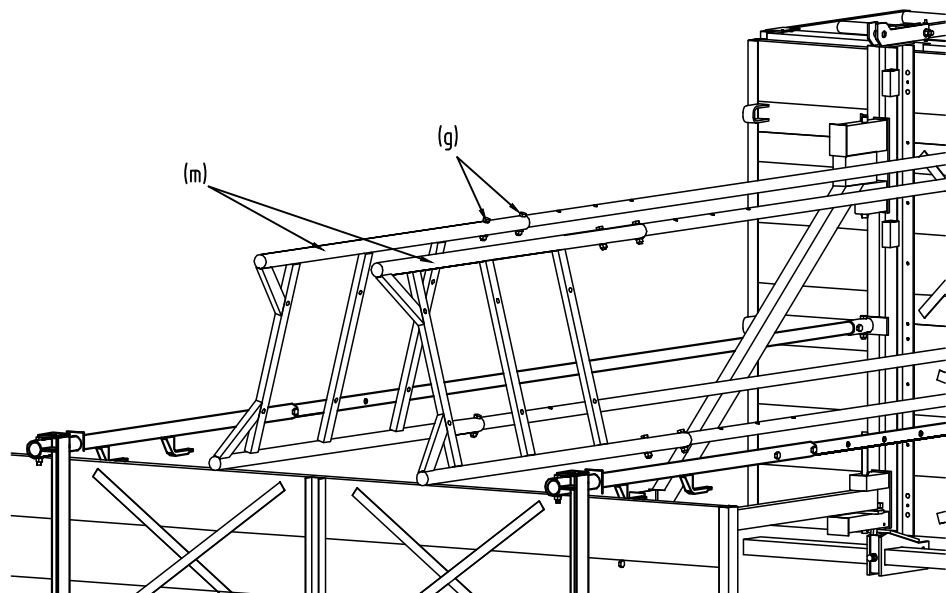

Fig. 10
- 10 Push the side parts (m) of the ladder exit over the suspension tube and fasten each with 2 bolts M16x80 (g). The hole centres of the tubes correspond with those of the suspension tube for the lower platform (see Fig. 10).